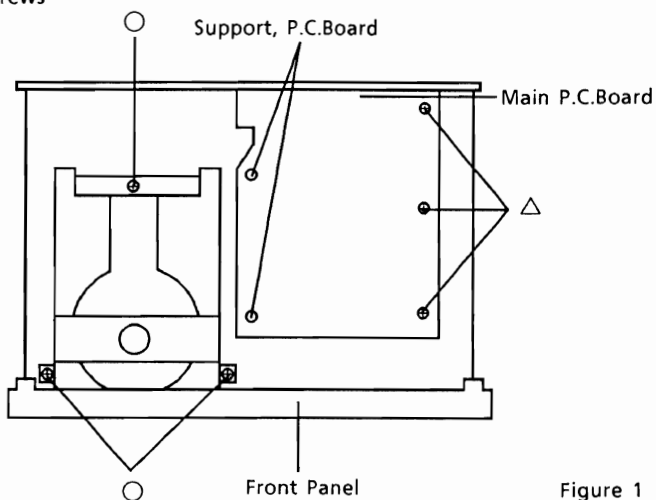
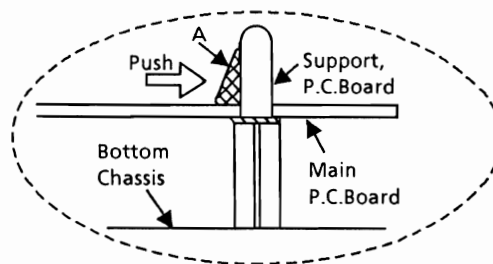

Figure 1
Figure 3
- (1) After removal of the Top Cover, remove three screws marked "○" as shown in Figure 1.
- (2) Disconnect all wires from the CD Mechanism.
- (1) After removal of the Top Cover, remove five screws marked "△" as shown in Figures 1 and 4.
- (2) Remove two supports, P.C.Board from the Main P.C.Board as shown in Figure 1, by pushing the point "A" as shown in Figure 3.
- (3) Disconnect all connectors from the Main P.C.Board.